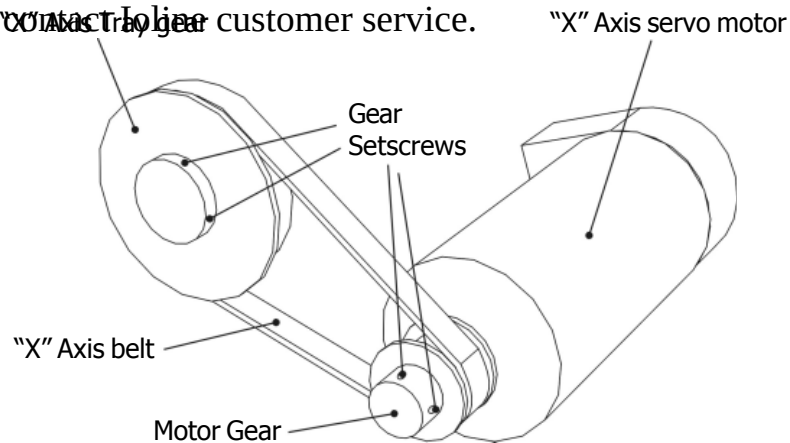

Fig. 5-11 "X" Axis motor, gears, and belt
4. To change either pulley loosen the set screws (See Fig. 5-11) pull the pulley off and replace with a new part. Reuse the set screws from the old pulley because there is Loctite residue on the threads. When tightening the set screws in the motor pulley make sure that one set screw contacts the shaft on the flat machined surface.